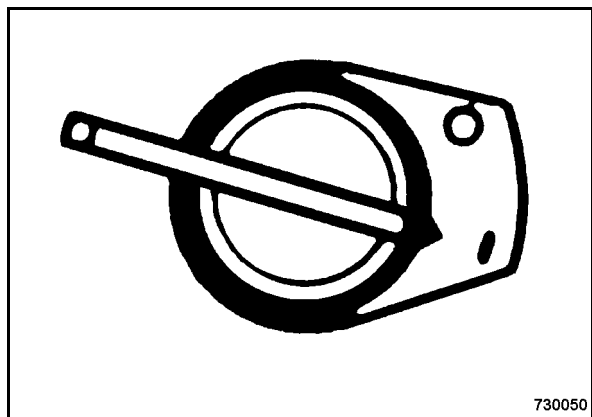

Fig. 18
- Turn the ignition switch to position "I" (Fig. 18).